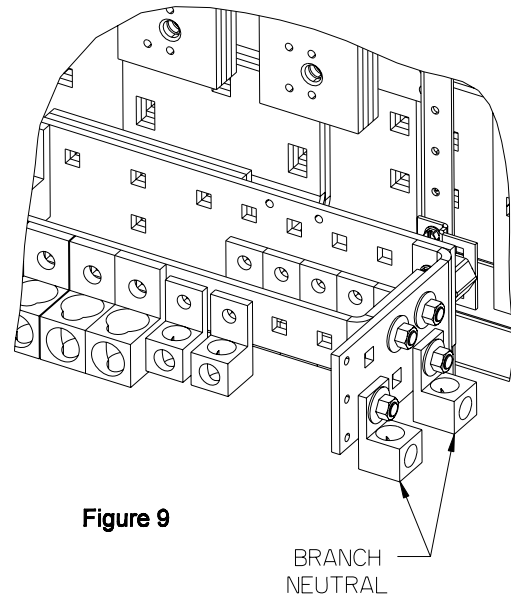

Figure 9
10. Reference fig. 9 - Installing the Branch Neutral Lug (item 11) in a Switchboard. The Branch Neutral is located at the bottom of the "Z-rails", or mirrored at the top depending upon the feed cable location. Two (2) different Neutral lug assemblies are included in the kit, be sure to install the type pictured below. The Neutral lug assemblies can be mounted, as shown, or on any available hole of the Branch Neutral depending on cable feed location. Torque all hardware as specified on the rear of the deadfront.